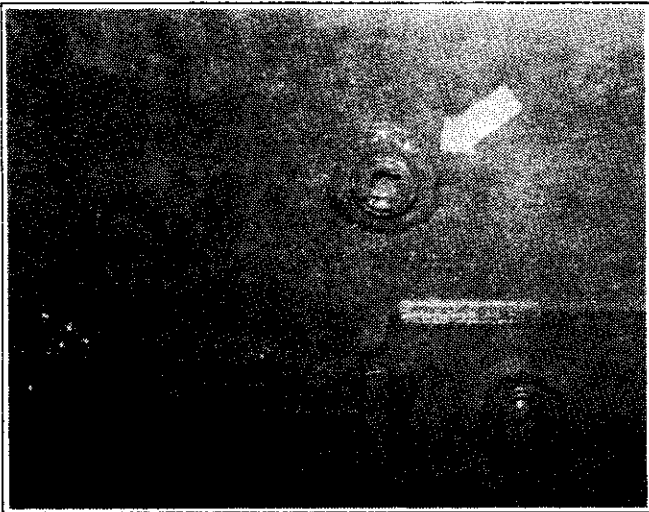

Figure 6-8
10. **To Remove Brake Disc.** . . the brake disc retaining pin must be removed. This is located behind the left rear wheel and right front wheel. (See figure 6-8)